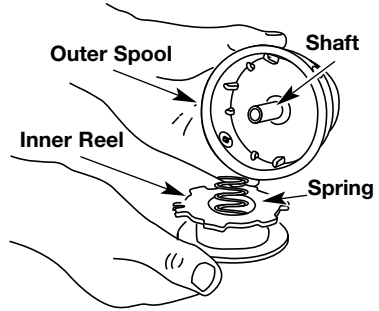

Fig. 14
2. Remove the inner reel from the outer spool (Fig. 14).
3. Remove spring from the inner reel (Fig. 14).
2. Remove the inner reel from the outer spool (Fig. 14, Pg. 15).
3. Remove the spring from the old inner reel (Fig. 14, Pg. 15).
6. Place the new inner reel inside the outer spool (Fig. 14, Pg. 15). Push the inner reel and outer spool together. While holding the inner reel and outer spool, grasp the ends and pull firmly to release the line from the holding slots in the spool.